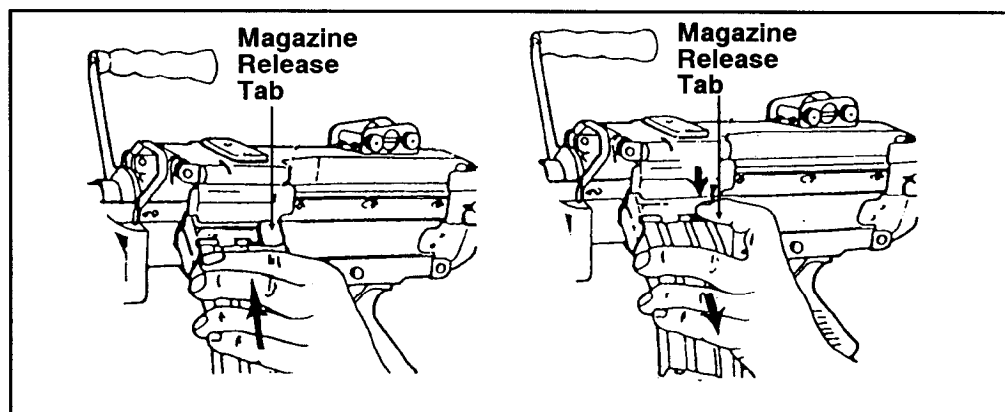

Figure 3-3. Loading a magazine.
b. **Magazine-Fed.** Load the 20-or 30-round magazine by inserting it into the magazine well on the left side of the receiver. Push the magazine firmly into the well until it seats and the release tab clicks into the recess on the magazine (Figure 3-3).